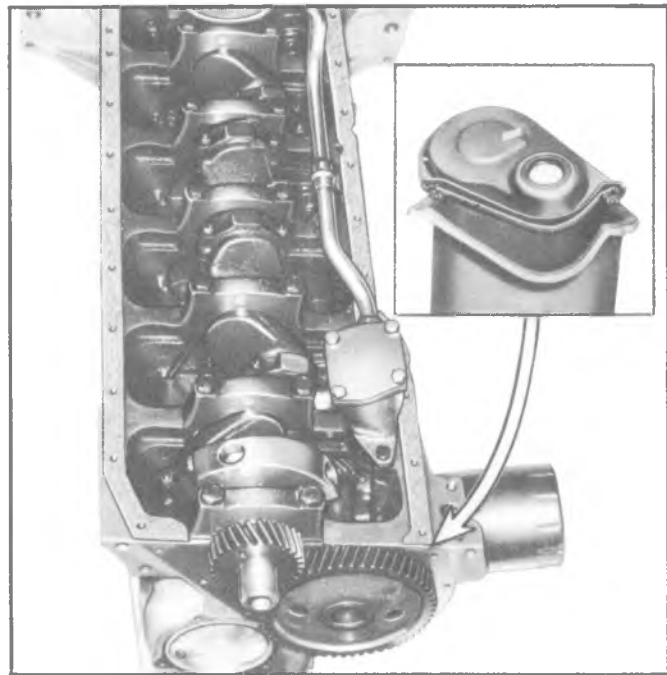

Fig. 6A-46--Pan Gaskets and Seals
3. Install front seal on crankcase front cover, pressing tips into holes provided in cover (fig. 6A-46).